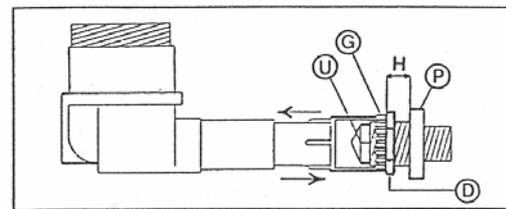

Fig. 4
- For fast and semi-fast burners (Fig. 4) loosen the check nut "D", rotate the ferrule "G" so as to adjust the distance between the ferrule and the nozzle holder "P" to an H value indicated in table 2. Tighten the check nut "D".